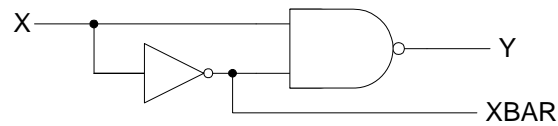

Figure 1 Simple Circuit
We will implement the simple circuit shown below in Figure 1. (Note that when creating this circuit in the FPGA, we will need to add output pads to get Y and XBAR out of the FPGA, and an input pad to get X into the FPGA).
- 3) Create a new schematic diagram file named `simple.bdf`, add it to your project, and implement the circuit shown in Figure 1. Name the input pin CLK0 to connect the 2.00MHz clock as the input. Name the output pin connected to the NAND gate (Y in Figure 1) BAR1_1, and name the output pin connected to the inverter (XBAR in Figure 1) BAR1_2.